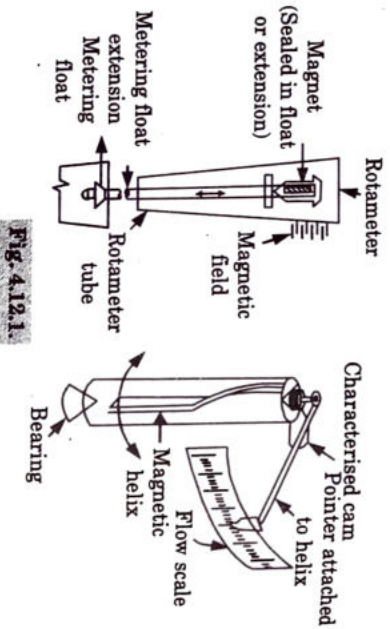

Fig. 4.12.1
1. Rotameter can measure the flow of both liquids and gases. Its operations is based on the variable area principle, where the flow raises a metering float in a tapered tube by increasing the area for passage of flow as shown in Fig. 4.12.1. The greater the flow, the higher the float is raised. Thus float height is directly proportional to flow rate.